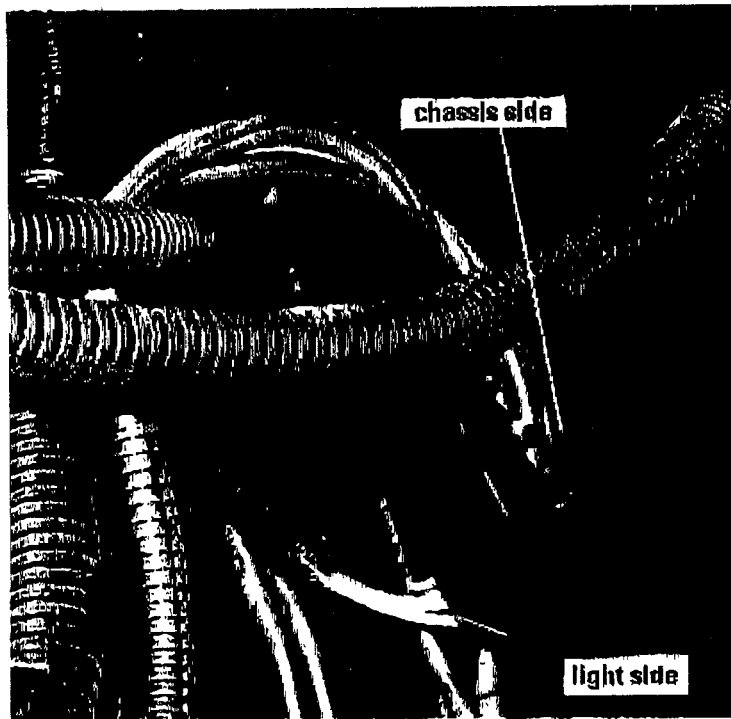

Fig 3
6. Locate the existing headlight harness where it mates to the chassis on the exterior of the front firewall (upper driver's side). See Figure 3.